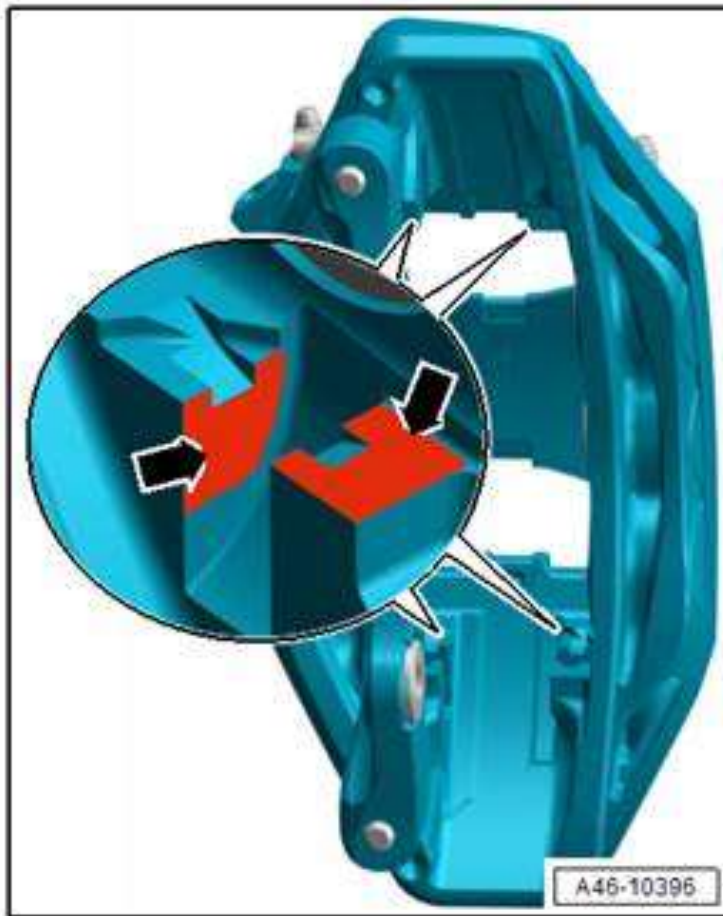

Figure 4. Clean contact surfaces and then coat with lithium grease.
4. It is mandatory to clean the contact surfaces (red marked with arrows) and coat with lithium grease (Figure 4). Also, coat the brake pad plate/guide pins and pad contact surfaces with lithium grease.